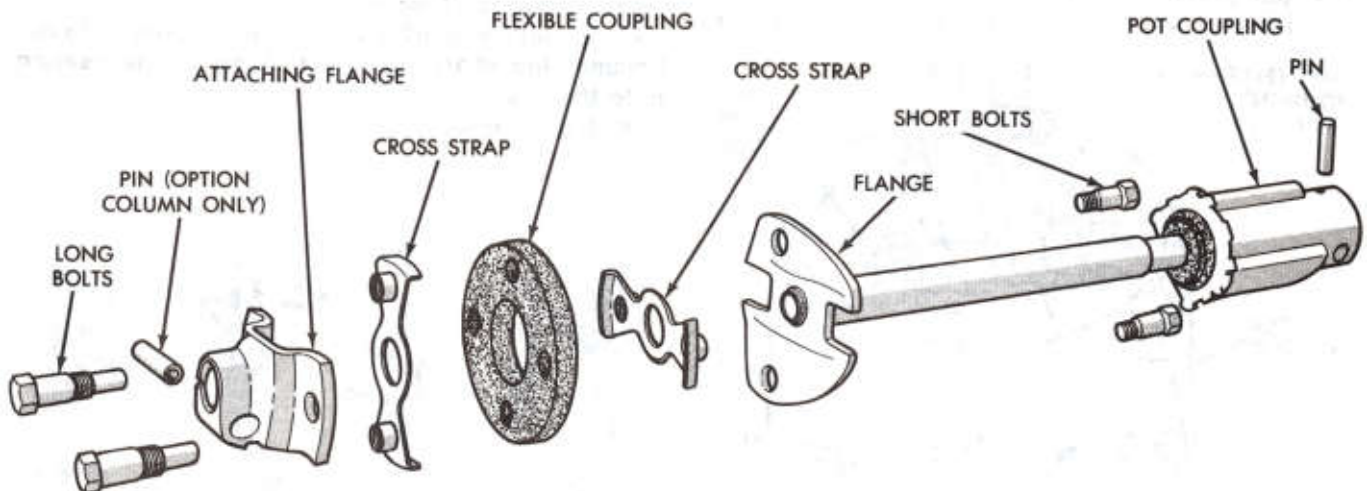

Fig. 15—Steering Shaft Flexible Coupling
- (1) Position the flexible coupling to the two cross straps.
- (2) Insert 4 bolts (Note position of "Long" and "Short" bolts Fig. 15).
- (3) Place coupling assembly on the flanges making sure that the master spline on steering shaft lines up with the master spline in lower pot coupling during assembly.
- (4) Torque bolts to 200 in. lbs. (23 N·m).
Steering Shaft Coupling Assembly (Fig. 15)